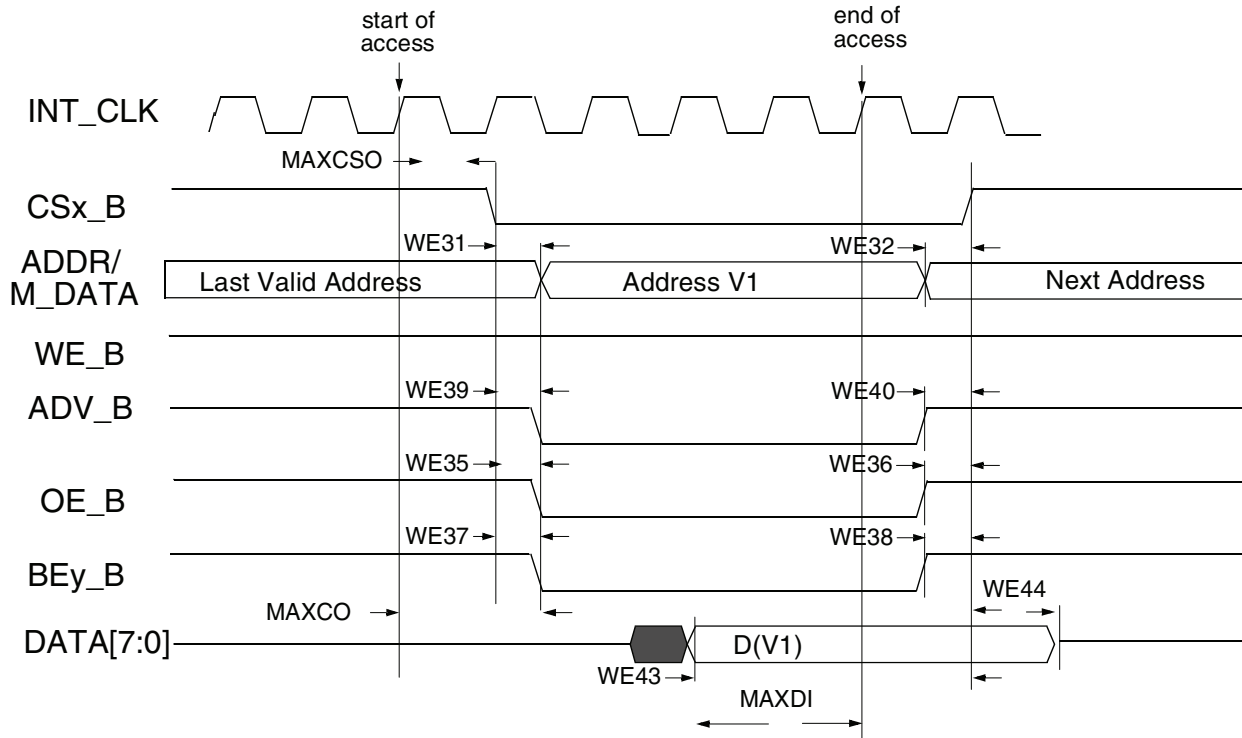
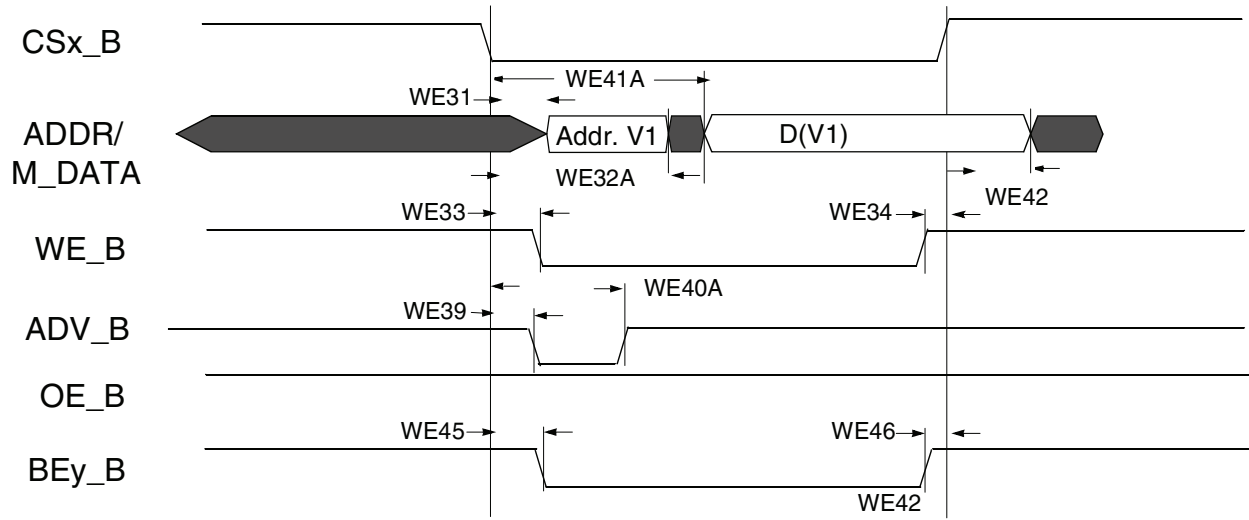
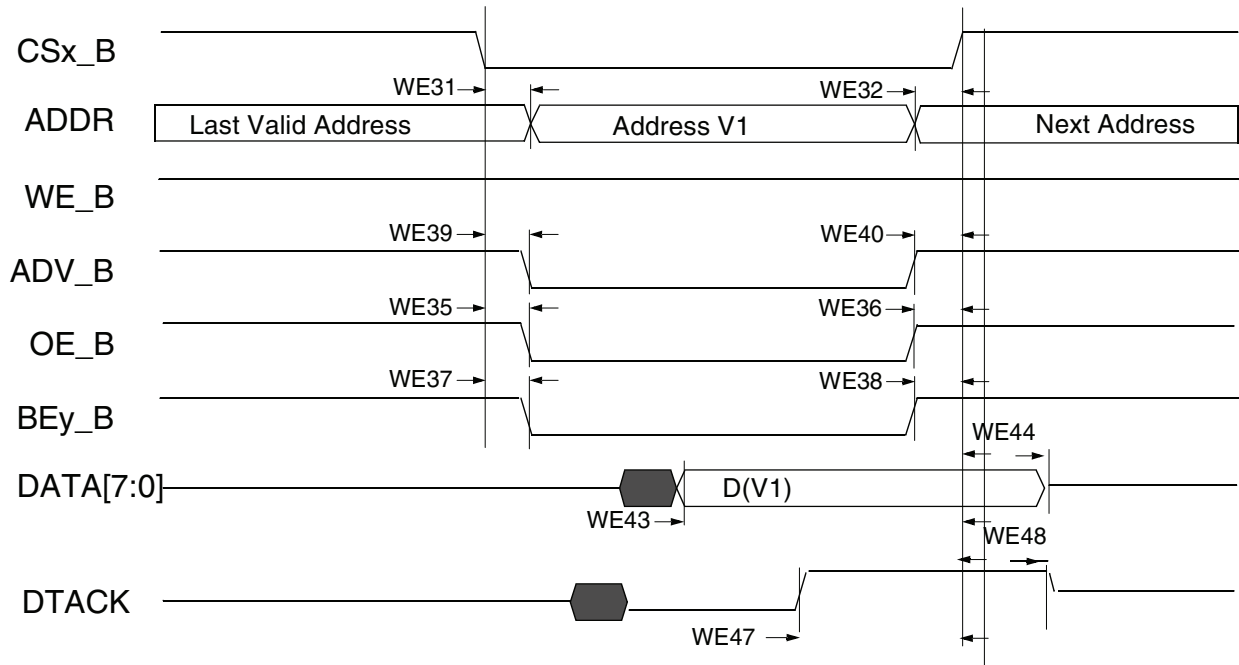

Figure 18. Asynchronous Memory Read Access (RWSC = 5)
Figure 21. Asynchronous A/D Muxed Write Access
Figure 22. DTACK Read Access (DAP=0)
Figure 18 through Figure 22 and Table 43 provide timing parameters relative to the chip select (CS) state for asynchronous and DTACK EIM accesses with corresponding EIM bit fields and the timing parameters mentioned above.
Asynchronous read & write access length in cycles may vary from what is shown in Figure 18 through Figure 21 as RWSC, OEN & CSN is configured differently. See the i.MX 6Dual/6Quad reference manual for the EIM programming model.